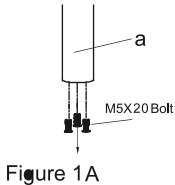

Figure 1A
1. Remove the 3 pcs M5x20 bolts at the bottom of the pole (a) with Allen key, see Figure 1A.